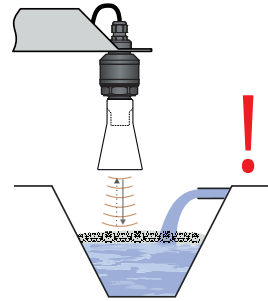

Fig. 9: Thick foam on the level
- **Foam** may be produced on the level of the measured liquid during filling, mixing and other processes. The thick foam significantly absorbs the ultrasonic signal and may cause malfunction of the device (Fig. 9). In those cases it is necessary to set "SENSITIVITY" to the value "HIGH" and test the level meter in advance, or contact the manufacturer. In case of a thin layer of foam, it is also possible to use directional horn for improving receipt of the reflected echo.